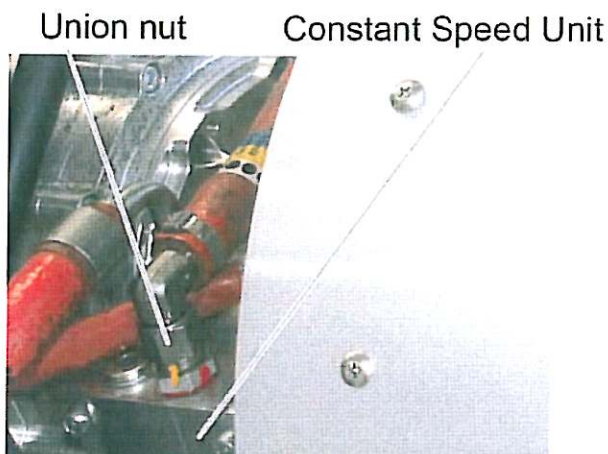

Figure 24
21. *Using the union nut, attach the hose line to the Constant Speed Unit (CSU). Tighten up the union nut to the specified tightening torque. See Figure 24.*